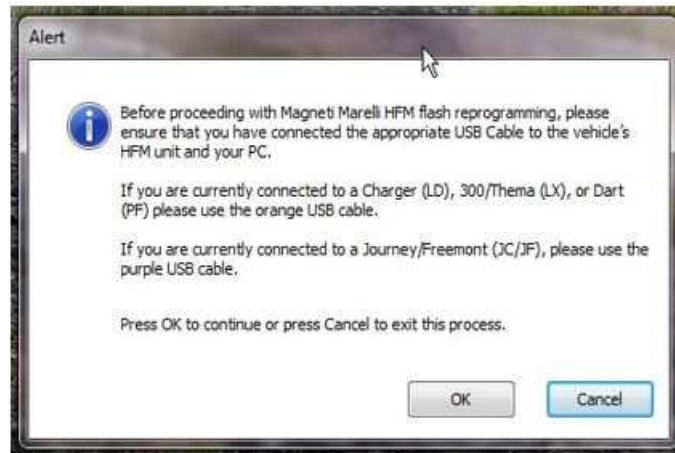

Fig. 6
7. Magneti-Marelli HFM USB flash (2011-2013) requires special USB cables. Before proceeding, ensure that you have the correct cables available. For LD/LX vehicles, you will need the Orange cable (wiTECH essential tool #500). For JC vehicles, you will need the Purple cable (wiTECH essential tool #501) (Fig. 6) . Click “OK” button.